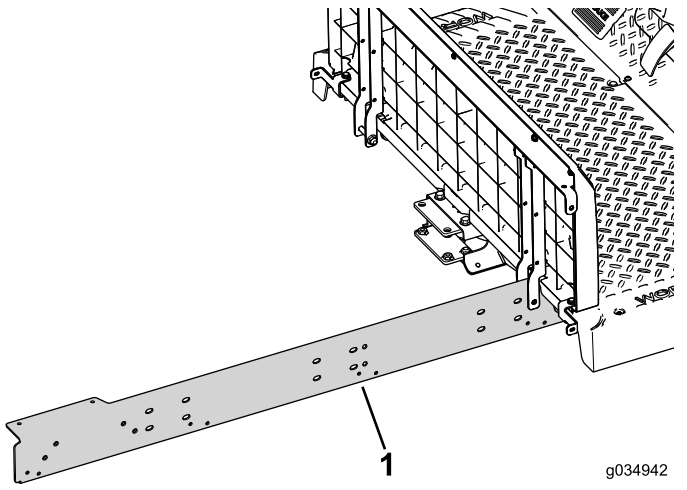

Figure 22
- Loosely install the extension rail to the right side of the machine (Figure 22).